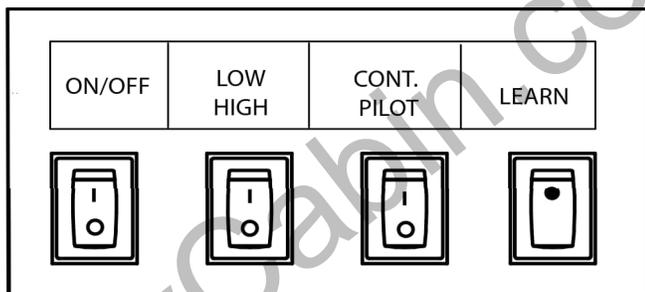

Figure 42 Control panel
1. To **LEARN** (pair) the remote transmitter to the control module, press and release the **LEARN** button (switch) in the control box. See Figure 42. You will hear single audible beep indicating the module is ready to learn the transmitter security code. Press any button on the transmitter within 60 seconds. The code is accepted when you hear 4 short beeps in rapid succession. Security codes will be retained in memory indefinitely if power is removed. Note: Control module accepts a total of three (3) wireless transmitters.